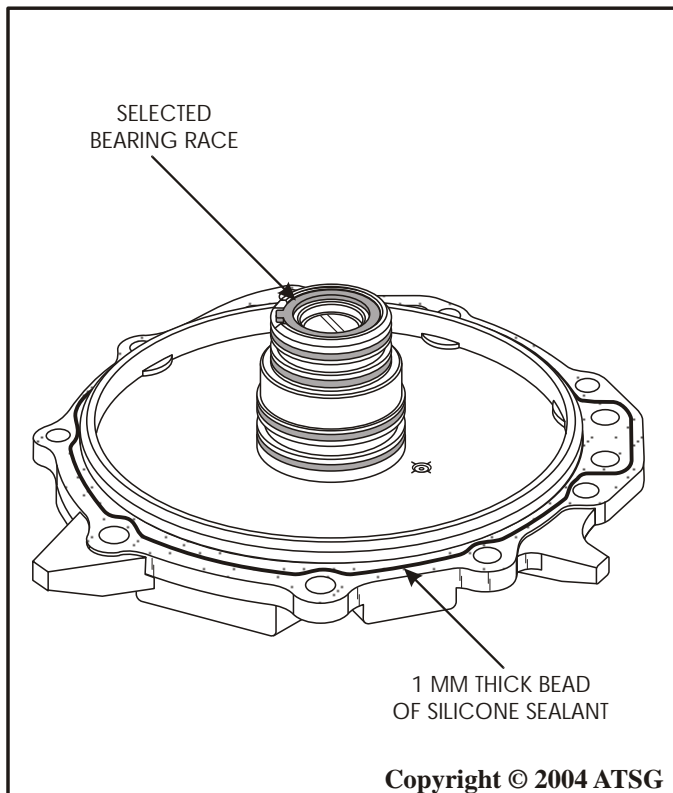

Figure 178
52. Install the selected bearing race onto the end cover and retain with Trans-Jel®, as shown in Figure 178.
53. Apply one-millimeter (1 mm) thick bead of Ultra Silicone Sealant (or equivalent) to the end cover surface, as shown in Figure 178.